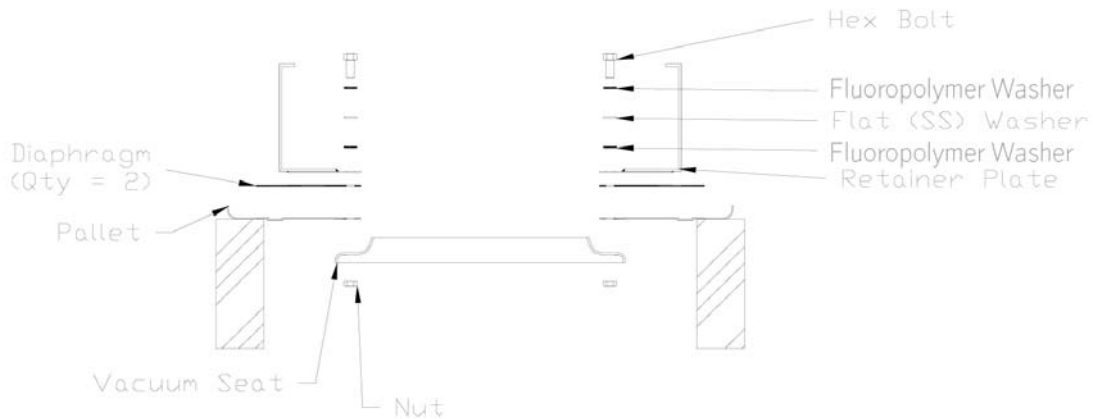

Figure 9: Exploded View of Pallet Assembly (Upside Down)
11. Turn pallet assembly upside down (Figure 9).
7. Align vacuum seat with pallet and insert 4 bolts (at 90 degrees from each other) from the top using fasteners shown in Figure 9 [7, 19, 20, 21].